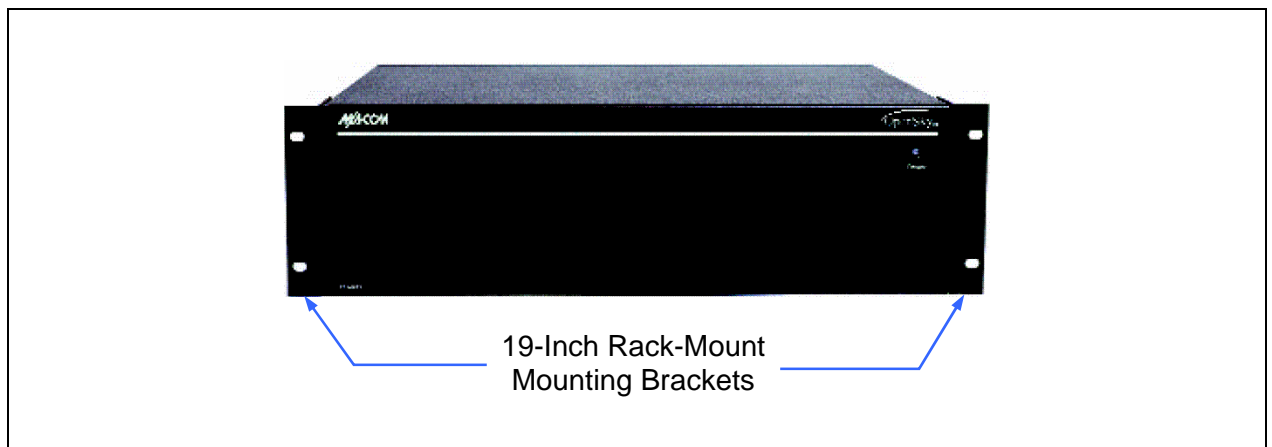
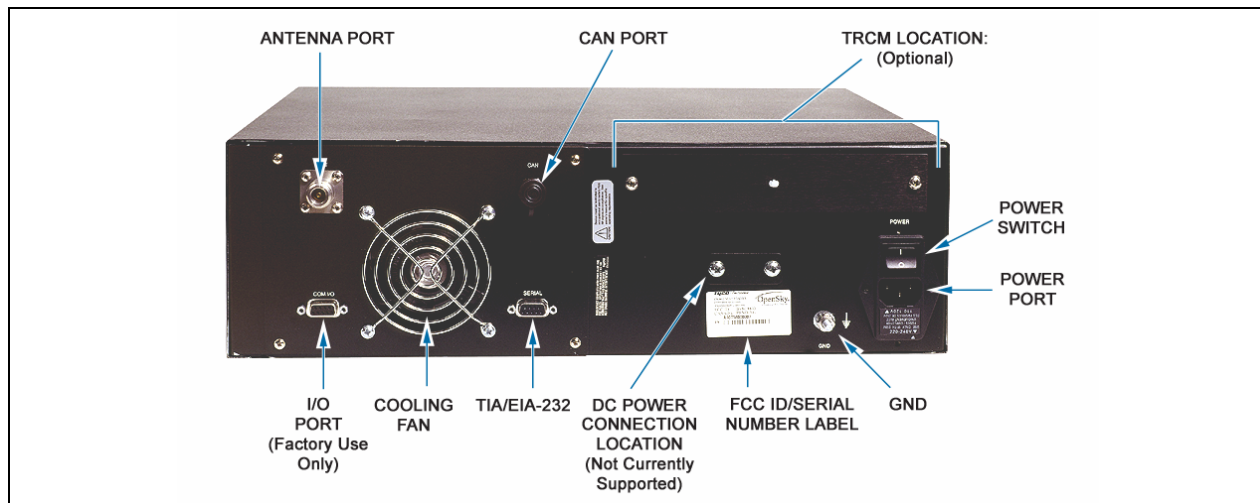

Figure 4-1: CS-7200 Front Panel
Figure 4-2: CS-7200 Rear Panel
The CS-7200 is typically used for dispatch communications via a remotely-connected SP-103 Desk Set or via a separately-supplied Tone Remote Controller (TRC). The CS-7200 is shown in Figure 4-1 and Figure 4-2 on page 14, and the SP-103 is shown in Figure 4-4 on page 17. The CS-7200-to-SP-103 interconnection is performed via a Controller Area Network (CAN) link connections. The CAN link may also employ an optional fiber optic-based CAN Bus Extender for increased distance separation between the CS-7200 and the SP-103. CS-7200-to-TRC interconnection is performed via 2-wire or 4-wire line audio connections.
The CS-7200 is designed for mounting within a 19-inch rack-mount cabinet. Its height is three rack-units (5.25 inches). Removable mounting brackets are attached to the side corners near the front panel of the CS-7200 at the factory. Bracket-to-cabinet rail mounting screws are not included. See Figure 4-1. The brackets are not shown in Figure 4-2.
4. At the CS-7200, screw the cable's N-type male connector to the N-type female antenna port connector on the rear of the control station. See Figure 4-2 on page 14. Hand-tighten firmly.
As shown in Figure 4-2 on page 14, a #10 grounding stud is located at the rear of the CS-7200. For safety purposes, connect it to the cabinet's mounting rack with a heavy-gauge wire or braid.